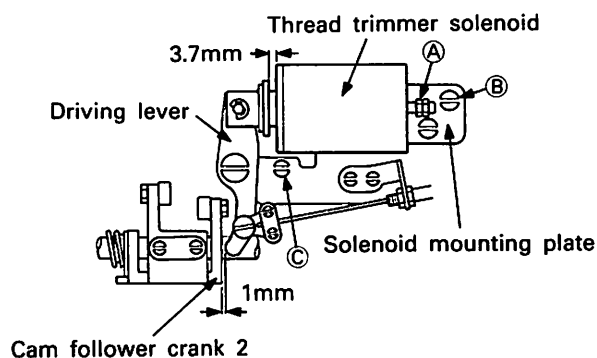
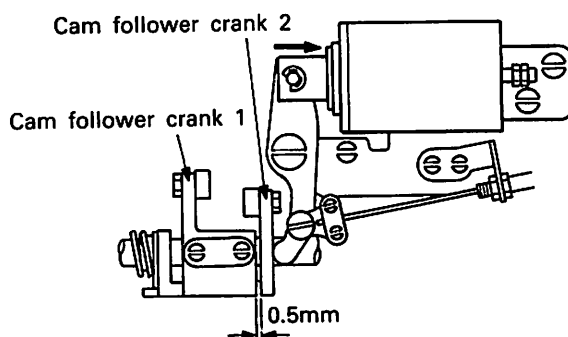

Fig. 7
Fig. 8
- 1) Install the unit using the screws ② and ③ shown in Fig. 7.
- 2) After installation, there should be about 1mm clearance between the driving lever and cam follower crank 2 with the stopper nut ① making contact with the solenoid.
- 3) When the solenoid is activated in this state, a clearance of 0.5mm is provided between the cam follower cranks 1 and 2 as shown in Fig. 8. This is the standard setting. To adjust, move the solenoid mounting plate in the direction of arrow in Fig. 7.